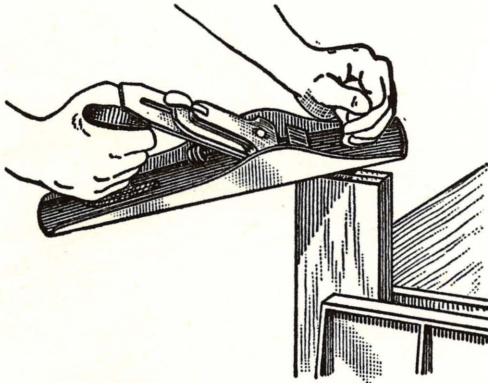

Fig. 47—Planing a chamfer
3. Plane chamfer. The ends should be planed first. Be sure to hold the plane at an angle. Planing straight across would split the wood at the corners. (See Fig. 47.)